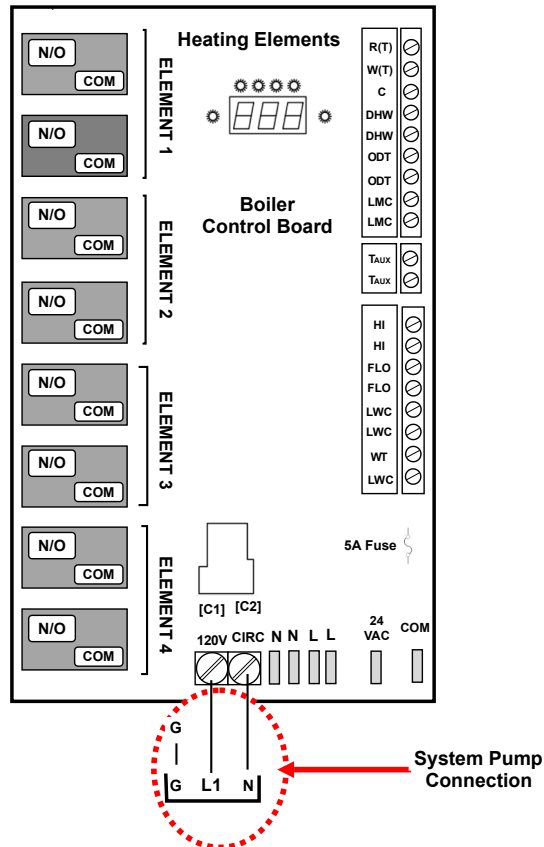

Figure 7-4: Wiring Control Board
- Control does not support secondary pump. See Figure 7-4.